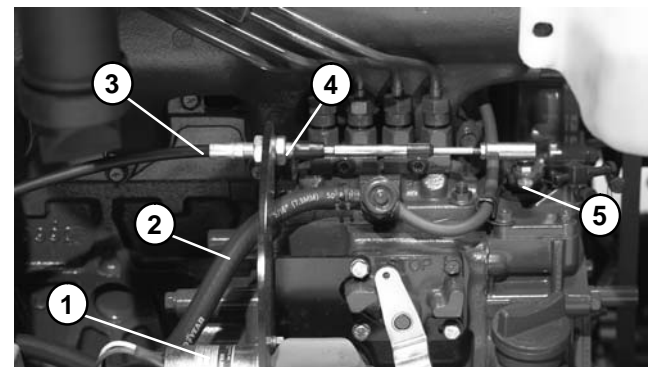

Figure 12
8. Disconnect fuel line from injection pump (Fig. 12). Cap fuel line and injector pump fuel inlet to prevent contamination.
9. Disconnect throttle cable from the speed control lever by removing the washer and lock nut. Loosen jam nut and take cable from mounting bracket (Fig. 12).
8. Connect throttle cable to the speed control lever with washer and lock nut. Install cable to mounting bracket (Fig. 12). Adjust throttle cable (see Operator's Manual).
9. Connect fuel line to the injection pump fitting (Fig. 12).